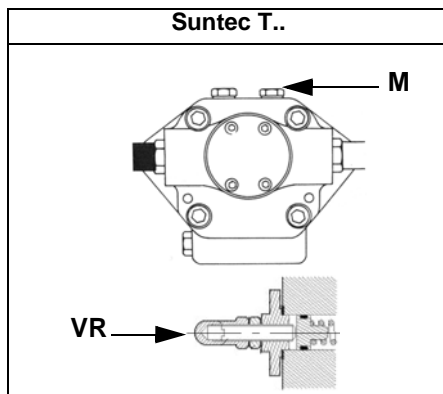
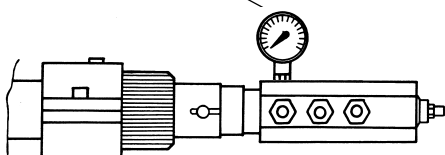

Fig. 23
Fig. 24
- 3 bleed the air from the **M** pressure gauge port (Fig. 23) by loosening the cap without removing it, then release the contactor.
- 9 the nozzle supply pressure is already factory-set and must not be changed. Only if necessary, adjust the supply pressure as follows (see related paragraph); insert a pressure gauge into the port shown on Fig. 24 and act on on the pump adjusting screw **VR** (see Fig. 23) as to get the nozzle pressure at 25bar (according to the nozzle model provided- see page 36).